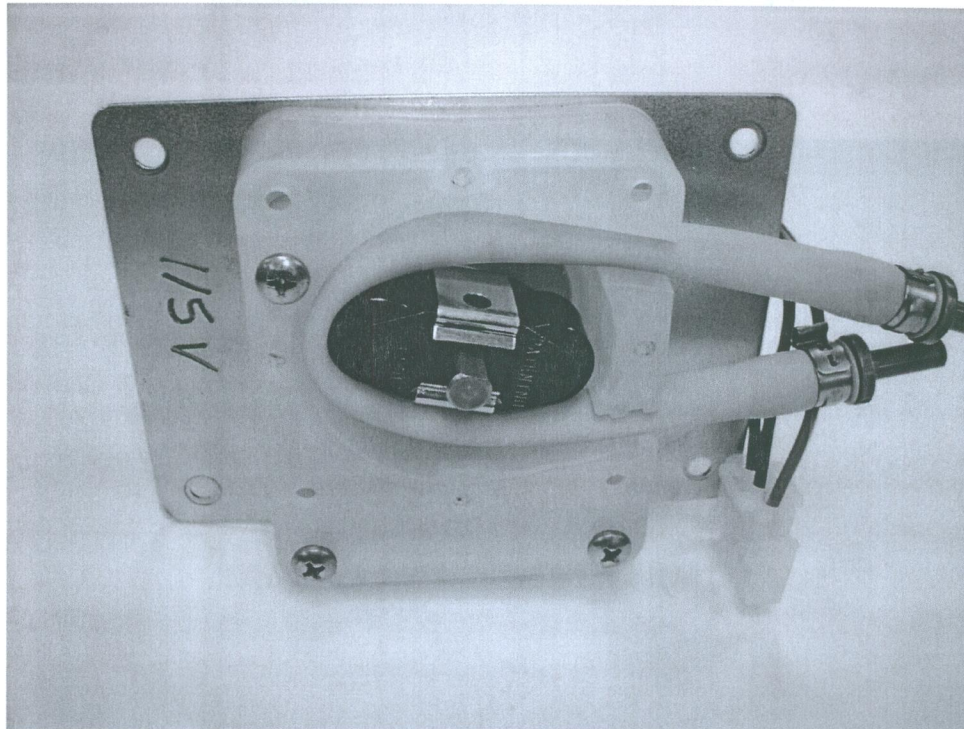

Fig 30
- Lay the new tube in the recess and rotate the roller as you feed the tube into place until the tube is completely installed. Refer to figure 30.